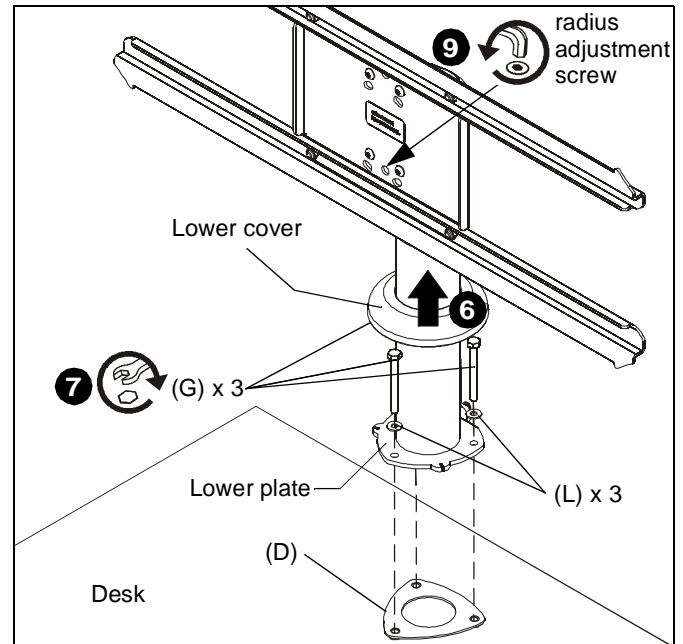
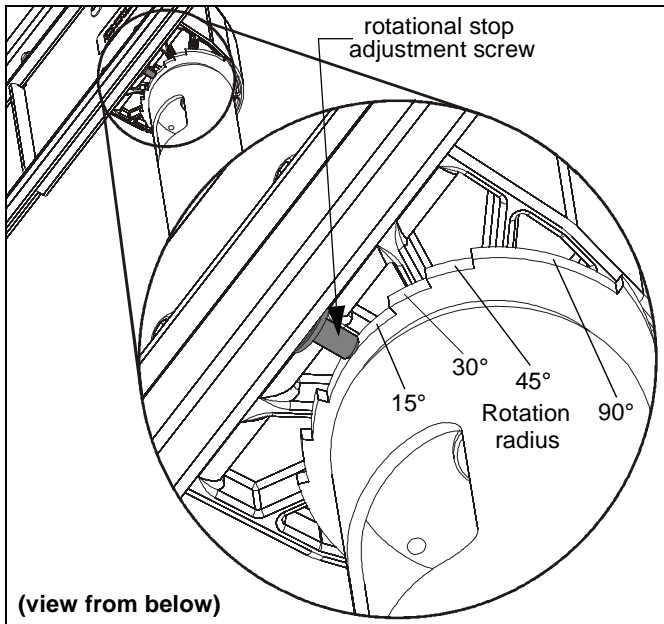

Figure 3
Figure 5
6. Lift lower cover on table stand to expose holes on lower plate. (See Figure 3)
7. Use three 1/4-20 x 2-1/2" hex head cap screws (G) and three 3/16" washers (L) to secure table stand through clamping plate (D) to desk. (See Figure 3)
- Use the 5/32" security hex key (W) to loosen rotational stop adjustment screw until desired radius is achieved. (See Figure 3) and (See Figure 5)